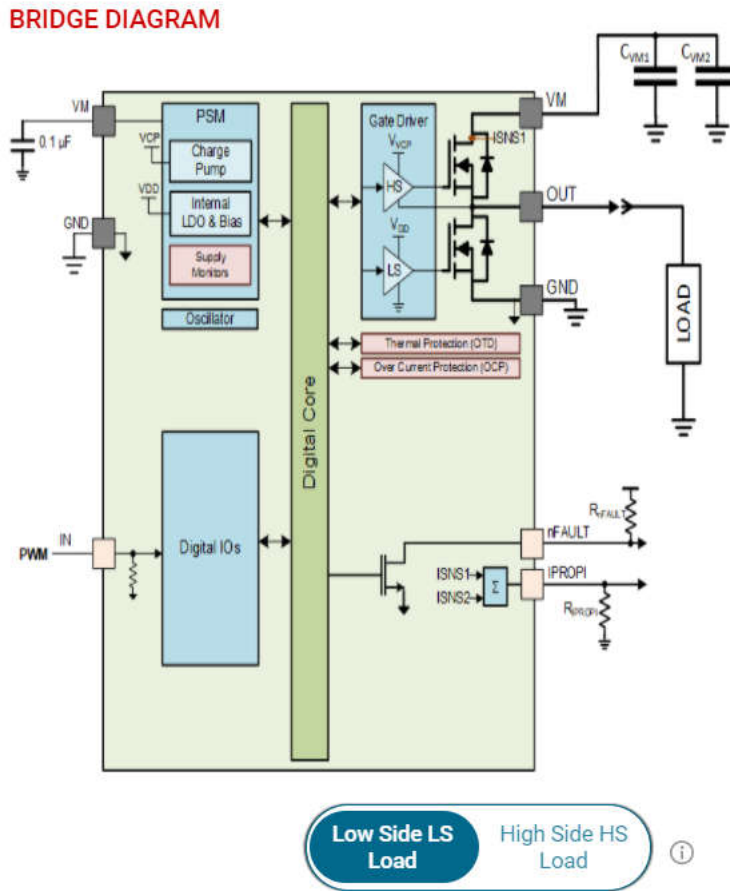

Figure 4-6. DRV814x and DRV816x High Side and Low Side Connections
user can only switch between high side and low side load connections. The high side connection connects the load between VM and OUT while the low side connection connects the load between OUT and GND as can be seen in Figure 4-6.
- **MODE** In Hardware variant, mode change must occur through jumpers while the GUI **WAKE** control is Asleep. See Figure 2-8. Level 1 is PH/EN Mode, Level 2 is Independent Half-Bridge Mode, and Level 4 is PWM mode, as can be observed in the device data sheet. For Level 4, there is no jumper. The jumper settings for these Mode changes can be observed in Section 2.4. For Independent Half-Bridge Mode, the user must correctly connect for either High-Side Load or Low-Side Load as can be observed in Figure 4-6.